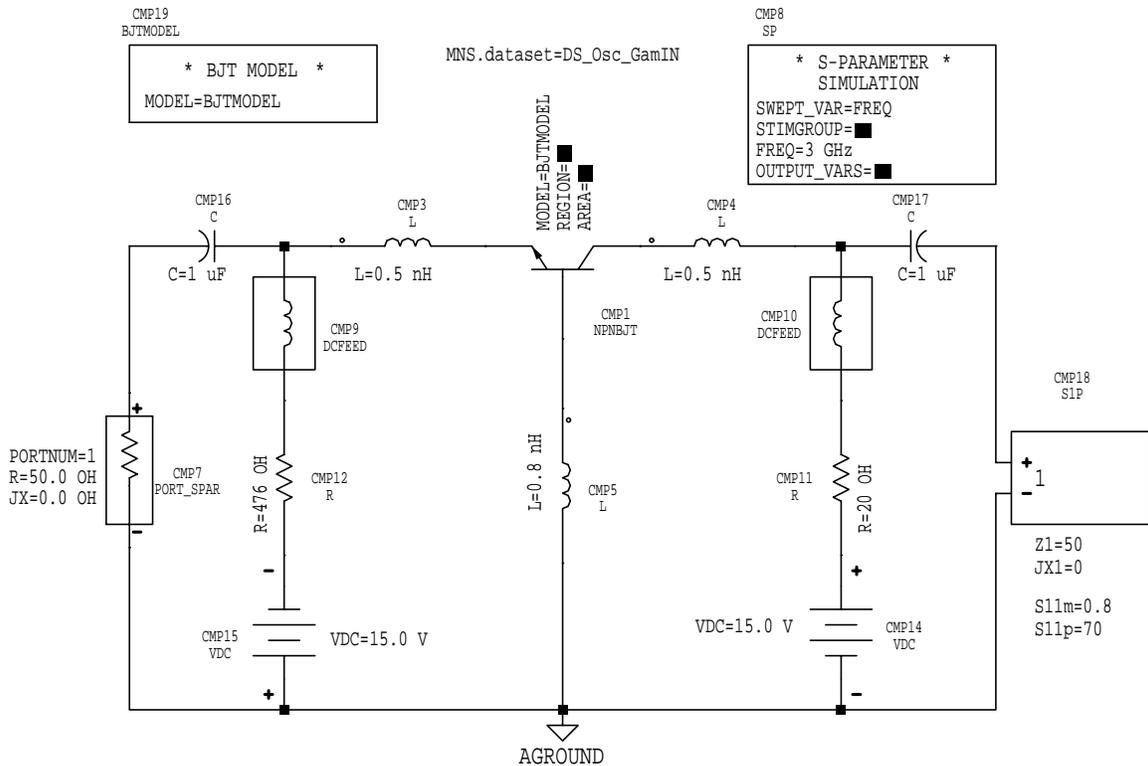
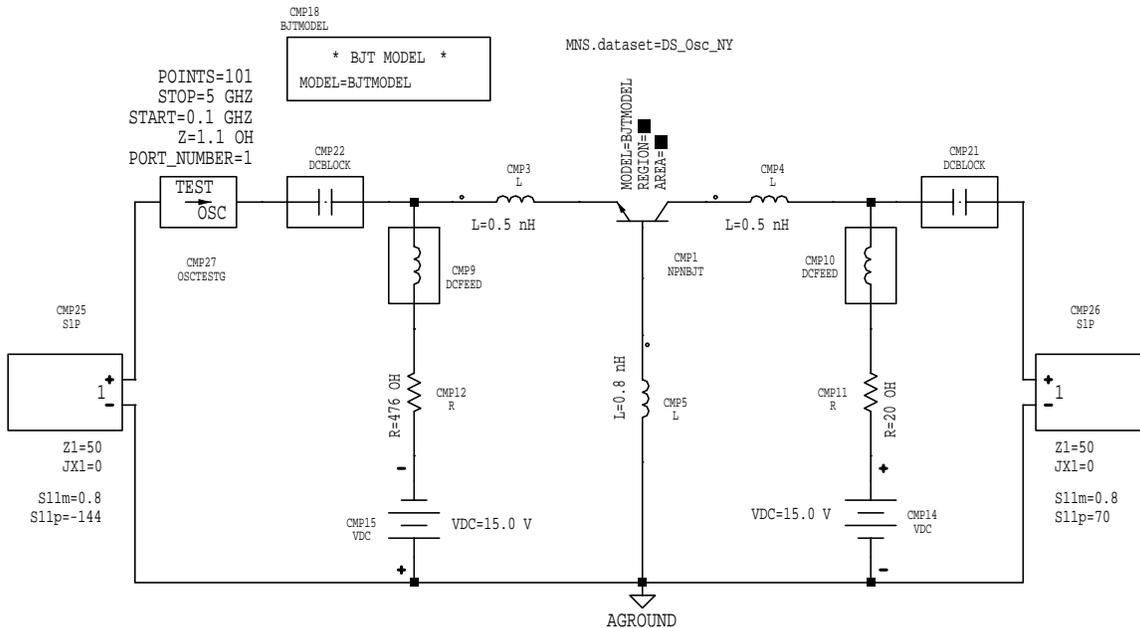
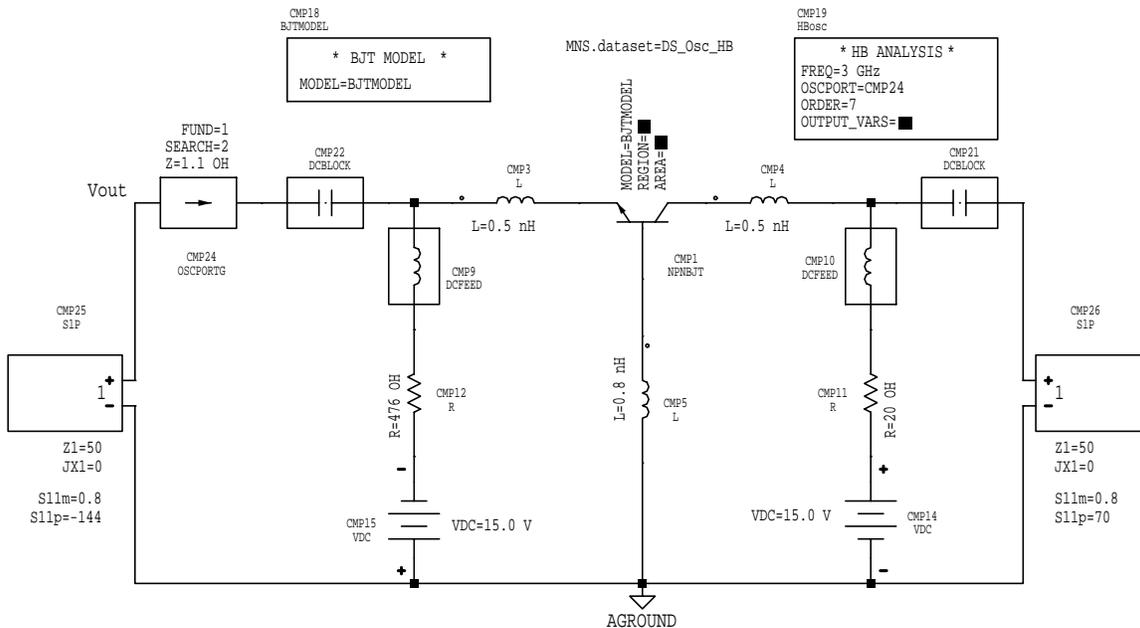
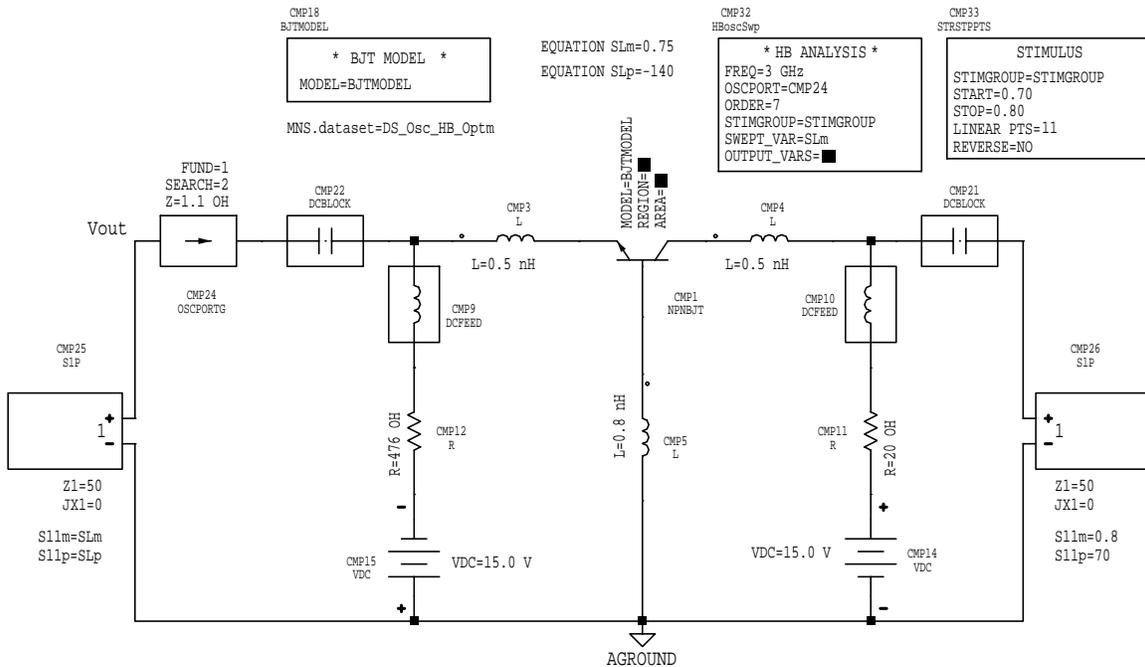

Figure 3: Γ_{IN} test circuit
Figure 4: Oscillator test circuit (OSCTESTG - Nyquist diagram)
Figure 5: Oscillator test circuit (OSCPORG - Harmonic balance)
Figure 6: Optimization circuit
- Construct the circuit shown in Figure 3.
1. For the circuit in Figure 3, $\Gamma_{IN} = S_{11}$. Does the simulation value for Γ_{IN} match your manually calculated value?
The circuit in Figure 4 is similar to the one in Figure 3, with four major exceptions:
- Construct the circuit shown in Figure 4.
The harmonic balance test circuit in Figure 5 is similar to the Nyquist test circuit of Figure 4, with two exceptions:
- Construct the circuit shown in Figure 5.
Figure 6 is basically the same as Figure 5, with a few critical additions:
- Construct the circuit in Figure 6.
- Use the circuit shown in Figure 5 as a starting point.
- Perform a harmonic balance simulation of the completed oscillator circuit. Use the same analysis settings as in Figure 5.